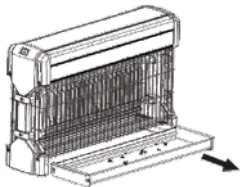

Figure 2
Remove bottom tray by sliding outwards (Figure 2) and empty dead insects from the tray. If needed use supplied cleaning brush. As the high voltage grid is a vertical design, it should require minimal cleaning. For optimal performance, it's recommended that the unit is inspected and cleaned if necessary once per week. Do not use metal objects or stick fingers through outer casing. Regularly clean the outside of the appliance with a soft damp cloth and dry it with a towel. Do not immerse in water. Do not use harsh solvents to clean the plastic.
1. Remove catcher tray from bottom of unit (Figure 2).